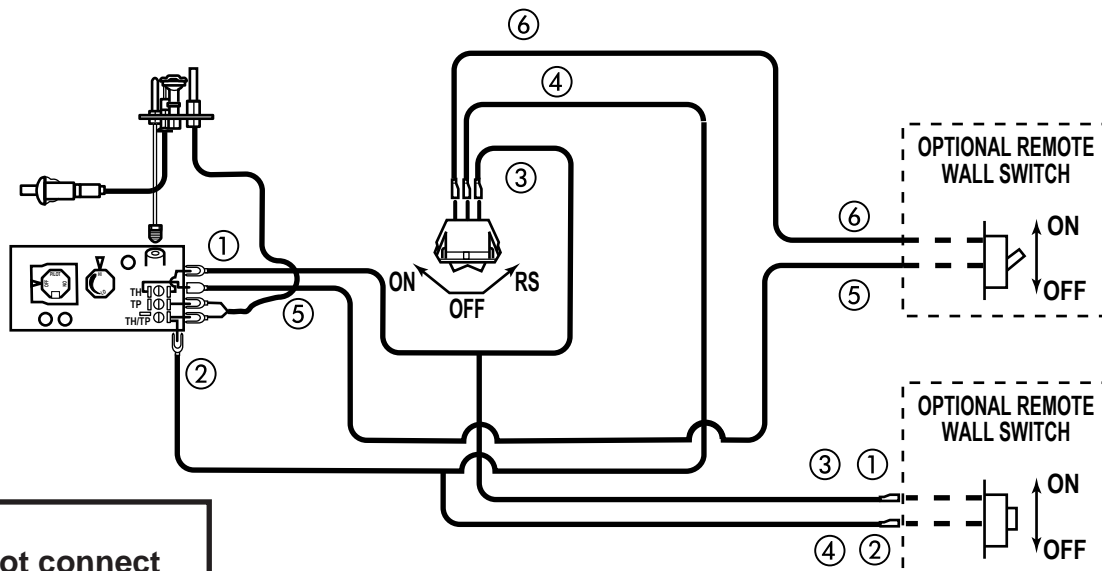

Figure 41 - Wiring Diagram for Wall Switch
A remote wall switch and up to fifteen (15) feet of 18 Ga. wire may be used with this appliance. Attach the wall switch in a junction box at the desired location on the wall. See Figure 41. Do not extend beyond the wall switch wire length provided.